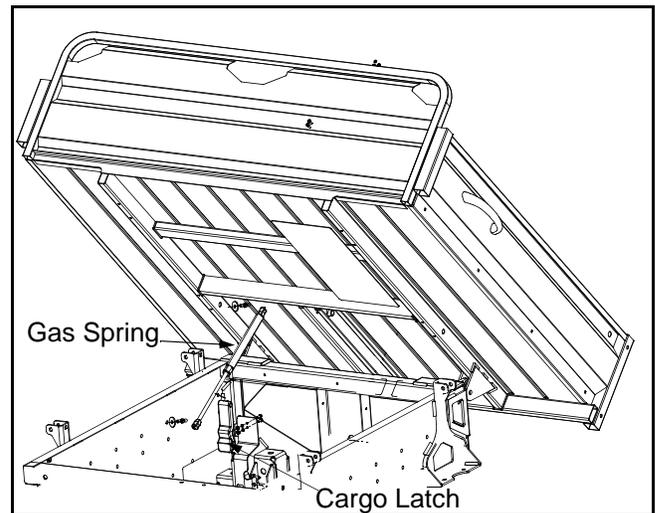

Figure 12
- Empty cargo by hand and unhook cargo box latch located in front of box. See Figure 12.
- The cargo box will raise after lifting on the handle and letting the gas spring raise on its own. See Figure 12.